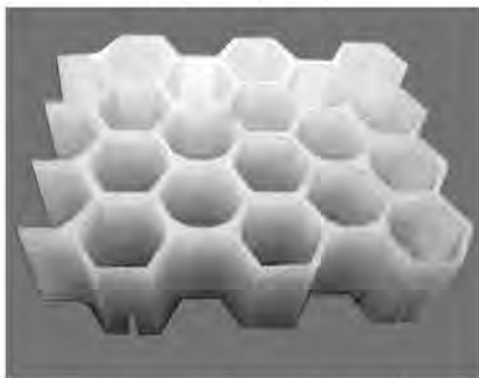

FIGURE 16.19 Structured packing assembled to fit into a given column diameter. (Courtesy: Copyright © Sulzer Chemtech Ltd.)
- Honeycomb polymer packings (Figure 16.19) can be made from sintered plastics to obtain a packing to operate at very low liquid superficial velocities.